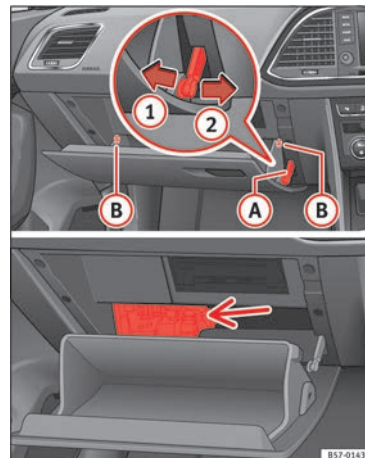

Fig. 103 Glove compartment (right-hand drive): Access to the fuse box.
- Undo the opening limiter»» **Fig. 103 A** in two steps: first, unlock the limiter by pulling back on it (arrow ①) and then move it gently to the right (arrow ②). Remove the guide when the cover is in the normal opening position (30°).